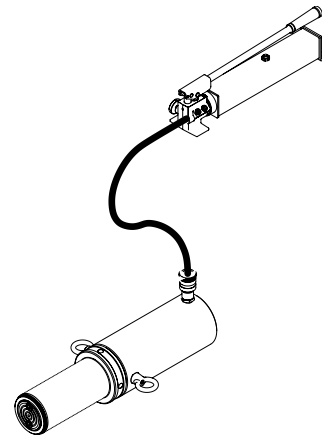

Figure 2 - Illustration to bleed air from system
1. Place pump at a higher elevation than the hose and cylinder as shown in Figure 2.
| Erratic action | <ul style="list-style-type: none"> • Air in system or pump cavitation. • External leakage in cylinder. • Cylinder sticking or binding. | <ul style="list-style-type: none"> • Vent the system (refer to figure 2). • Contact service center. • Contact service center. |
| Cylinder performs poorly | <ul style="list-style-type: none"> • Oil level in pump is low. • Air trapped in system. | <ul style="list-style-type: none"> • Ensure proper oil level. • Vent the system (refer to figure 2). |